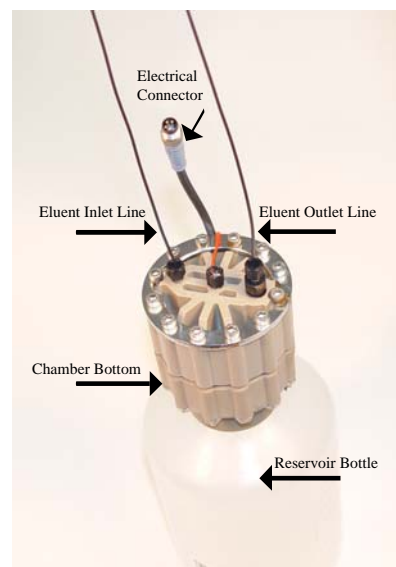

Figure 1
1.1. Plumbing (Figure 1)
- Place the EGC on a flat surface in front of the Eluent Generator (EG) with the Electrolysis Chamber and EGC INLET and OUTLET fittings facing up.